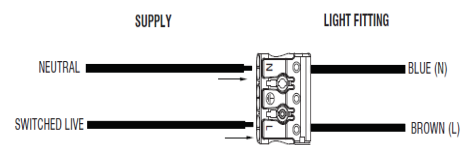

Fig 1
1. Electrical connections to the terminal block (Fig.1) for standard & microwave versions